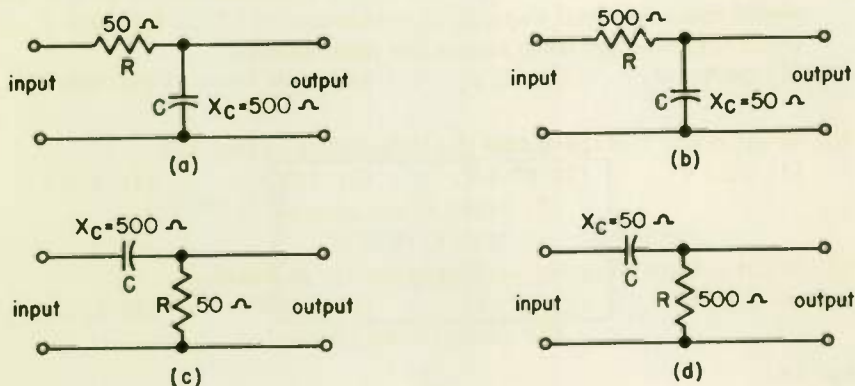

Fig. 56
(1) $P = I^2R$. (2) $P = I^2Z$. (3) $P = E \times I$. (4) $P = \frac{R}{Z}$.
22. Which circuit of Fig. 56 would you use for a phase-shifting network in which you want the output wave to lag the input wave by as near 90° as practical?